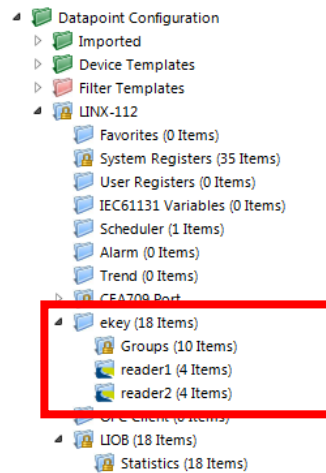

Figure 178: Data Point Manager with ekey device folders.
- The folder list (Figure 178),